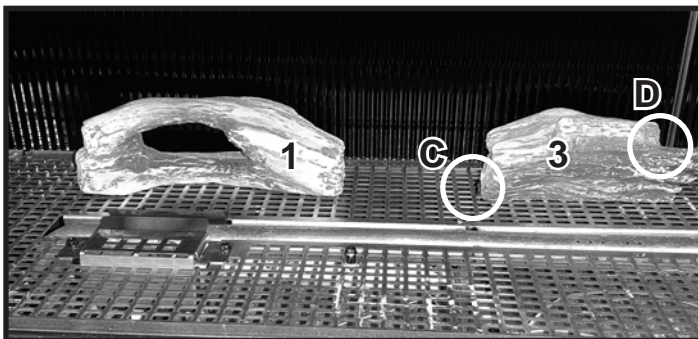

Figure 3 Install Log #3
**Log #3:** Place the left side of Log #3 against log pin (C). Pivot the right side of the log backward until it contacts the rear pin (D) for See Through models and those using black glass refractory. See Figure 3. For installations with fiber refractory, the log will contact the back refractory.